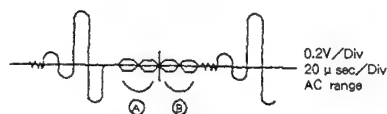

Fig. 3-1
- (1) Receive a PAL DEM pattern signal.
- (2) Connect an oscilloscope to TP46R.
- (3) Adjust SFR301 and L303 several times alternately so the A and B components are minimum. (See Figure 3-1)